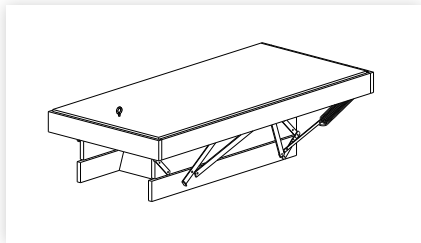

figure 6
3. Turn the ladder over so the lid is facing up. Fit the screw eye 60mm in from the opening end, midway across the width (figure 6).